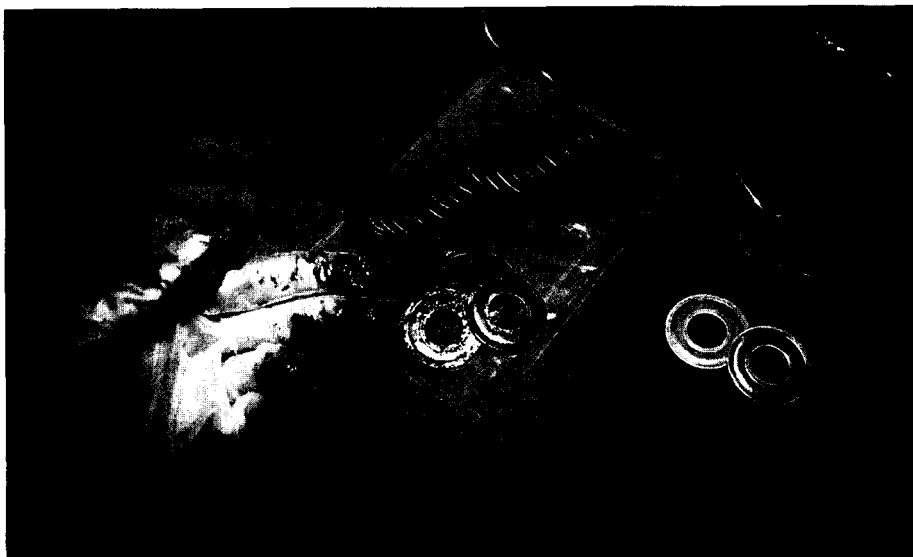

Figure 2. Brass filters before (left) and after (right) LCO2 cleaning.
The brass filters evaluated are used in aircraft propeller assemblies to filter hydraulic fluid. The filter contaminants included hydraulic fluid, aircraft grease and heavy carbon deposits. A picture of brass filters is shown in **Figure 2** (page 28). The current process to clean these parts includes soaking them overnight in a petroleum distillate (PD) formulation, then hand scrubbing with a brush, washing in water-based general purpose detergent, rinsing with water and drying in an oven. Due to the prolonged soaking and hand scrubbing, cleaning of this part is labor intensive and time consuming. Although the cleaning of the filters does not require the use of a CFC solvent, it does result in the generation of contaminated water stream. In addition, the process leaves visible black carbon deposits on the surface of the filter.